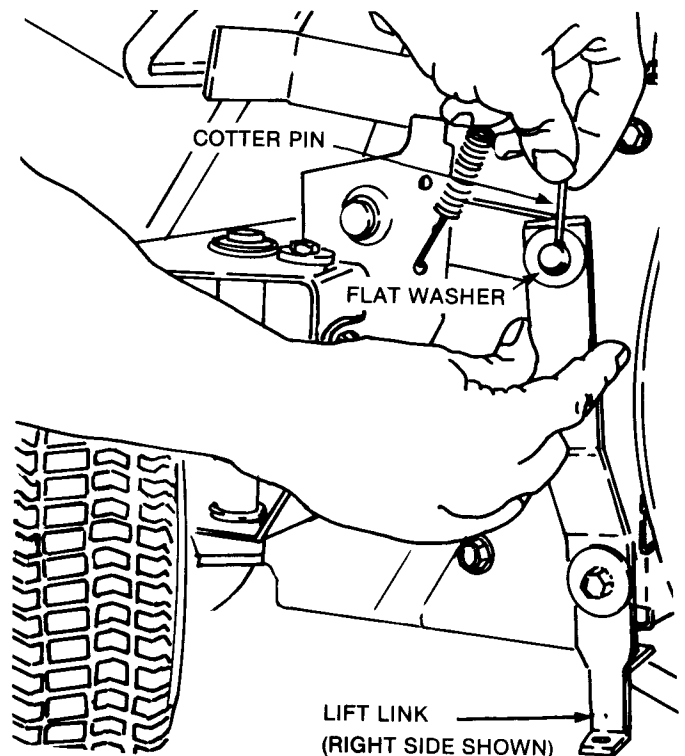

FIGURE 12 - DISCONNECT LIFT LINKS
STEP 9: Disconnect the lift links by pulling the cotter pins and bending the top edges of the links outward and over the posts (Figure 12).